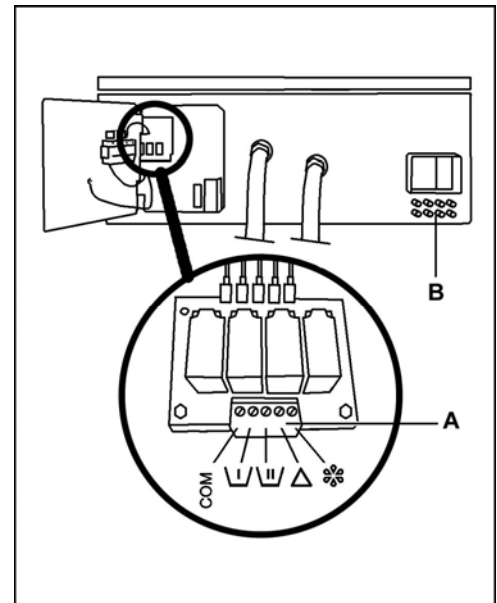

fig. 12
##### Connection of the dispenser equipment to the washer (*fig. 12*).
- Connect the hoses to the nipples **B** on the manifold (*fig. 12*).